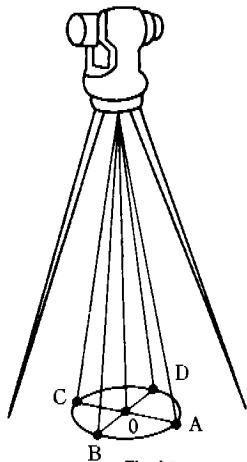

Fig 31
1. If the center mark does not coincide with the intersection point, mark the points set on the line of sight at each step of  $90^\circ$  rotation on the paper, and call them points A, B, C and D (see Fig. 31).